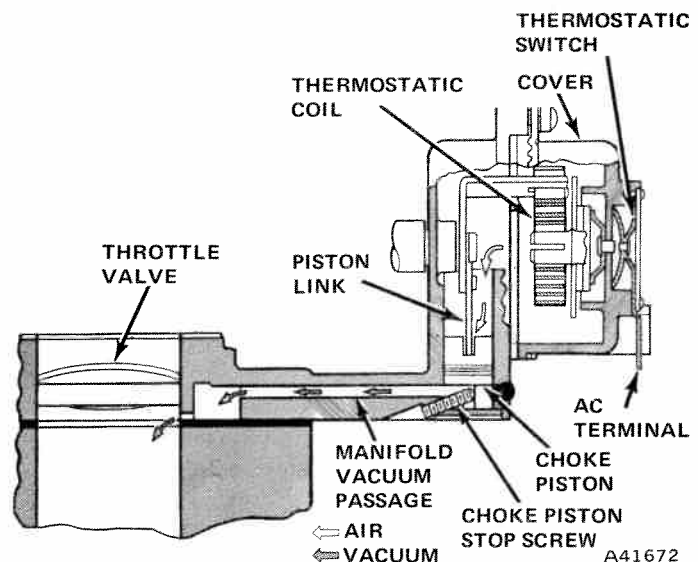

Fig. 4-63 Electric Assist Choke
When the engine is cold, the thermostatic coil in the choke cover exerts force against the choke piston lever and rotates the thermostatic choke shaft. This action causes the choke valve to close and also pulls the choke piston upward in its passage (fig. 4-63).
An electric assist choke is used on all 4V carburetors to more accurately match choke operations to engine requirements. It provides supplemental heat to the choke bimetal spring to speed up choke valve opening after the choke cover interior reaches modulating temperature (refer to Thermostatic Switch Choke Modulation chart on page 4A-16). The purpose of the electric assist is to reduce emission of carbon monoxide (CO) during engine warmup. A special ac terminal is provided at the alternator to supply a 7-volt power source for the electric assist. A thermostatic switch (bimetallic disc) within the choke cover closes when the choke cover interior reaches modulating temperature, allowing current to flow to the heating element (fig. 4-63). The circuit is completed through the choke cover ground strap and choke housing to engine. As the heating element warms up, heat is absorbed by an attached metal plate which heats the choke bimetal spring.